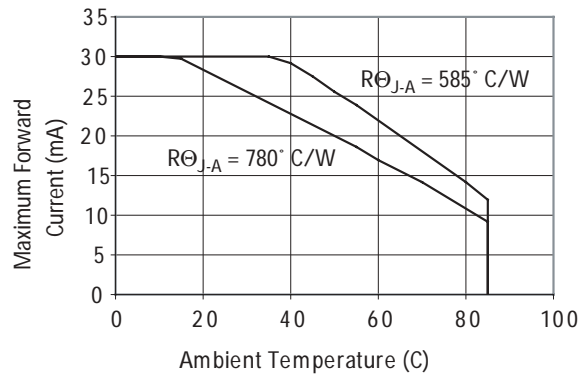

Figure 4. Maximum Fwd Current vs Temperature
1. Derate linearly as shown in Figure 4.